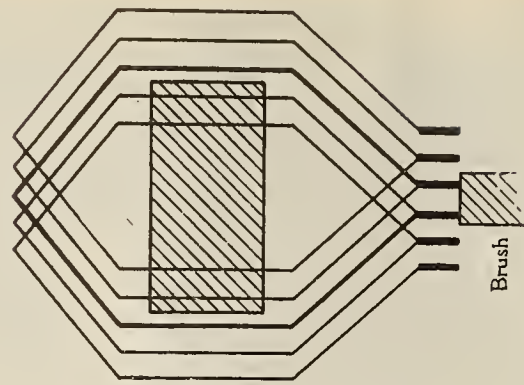

FIG. 3.
2. The local armature current. At each brush there is a local circuit in which the electrically-generated e. m. f. is not neutralized, a current results, which, if not prevented, effects commutation and increases the motor loss. Figure 3 shows this local circuit made up of an armature coil and the brush. It is seen that when the coil is short-circuited by the brush it is in the position of maximum value of the electrically-generated e. m. f., corresponding with the position C D Figure 1. This local circuit may be compared with the short-circuited secondary of a transformer, of which the field coil is the primary. The loss is occasioned by the local current, appears as a part of the energy component of the field voltage, the action being the same as in a transformer.